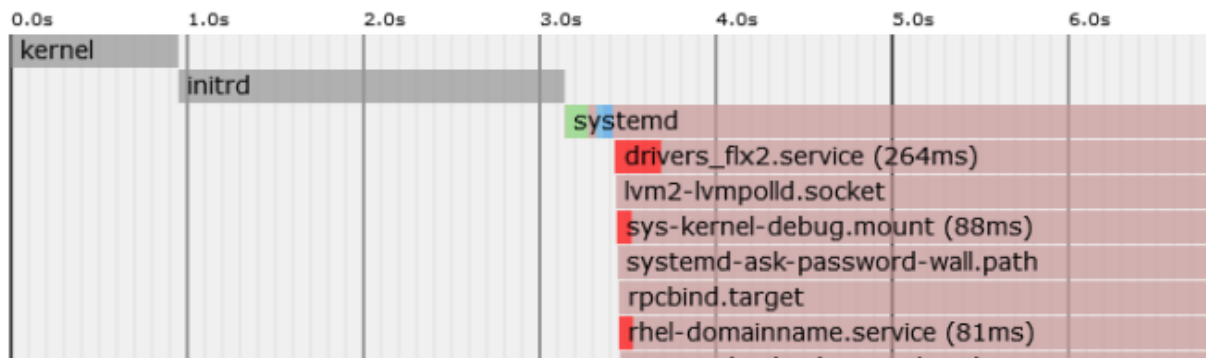

Figure 11.2 Example output of `systemd-analyse` with `drivers_flx` first.
- Reboot the computer and check `systemd-analyze plot drivers_flx_sd.service > p.svg; eog p.svg` again. Keep adding services to the `BEFORE=` list until `drivers_flx_sd` is the first service, as shown in Figure 11.2